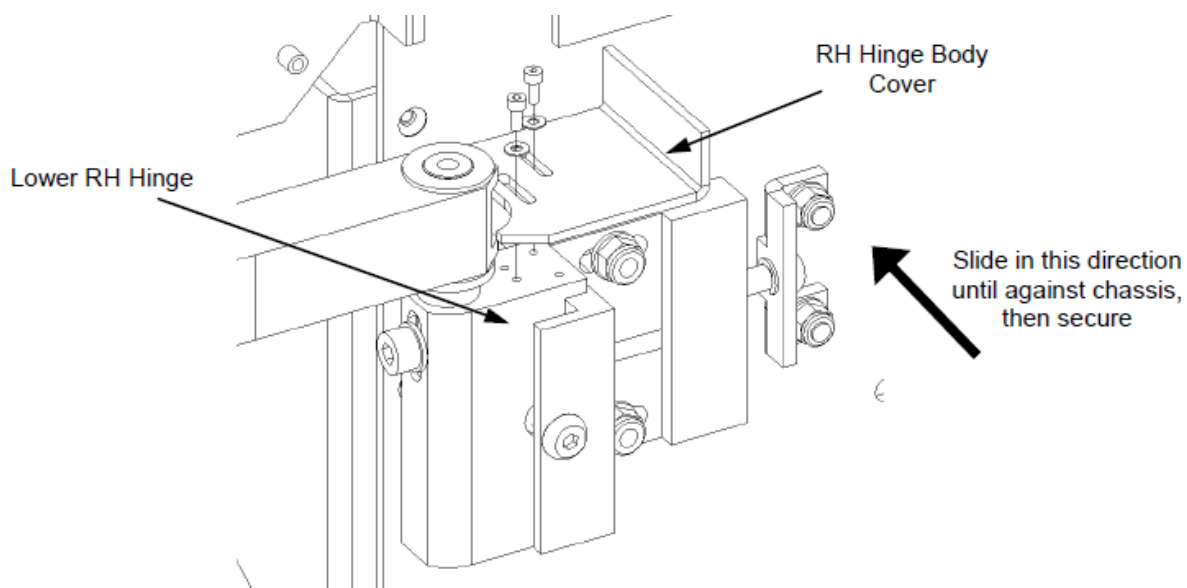

Figure D-4: Right Hand Hinge Body Cover
2. Remove the right hand hinge Body Cover from the lower right hand hinge by unscrewing the two M2x6 screws (Figure D-4). When replacing the cover, secure the screws with Loctite 222.